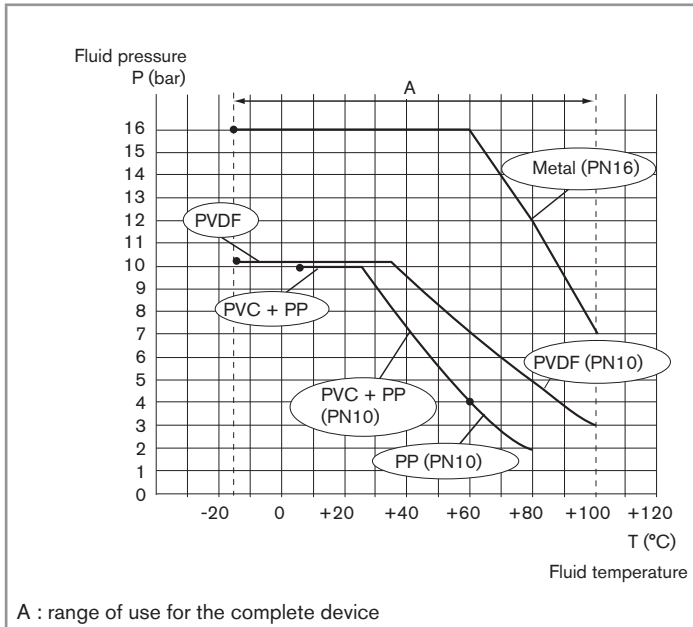

Fig. 1: Fluid pressure / temperature dependency curves
Fluid pressure	depends on the fitting material (see Fig. 1 in chap. 7.1)
- ▶ Take the fluid pressure / temperature dependency into account according to the nature of the material of the fitting used (see Fig. 1).